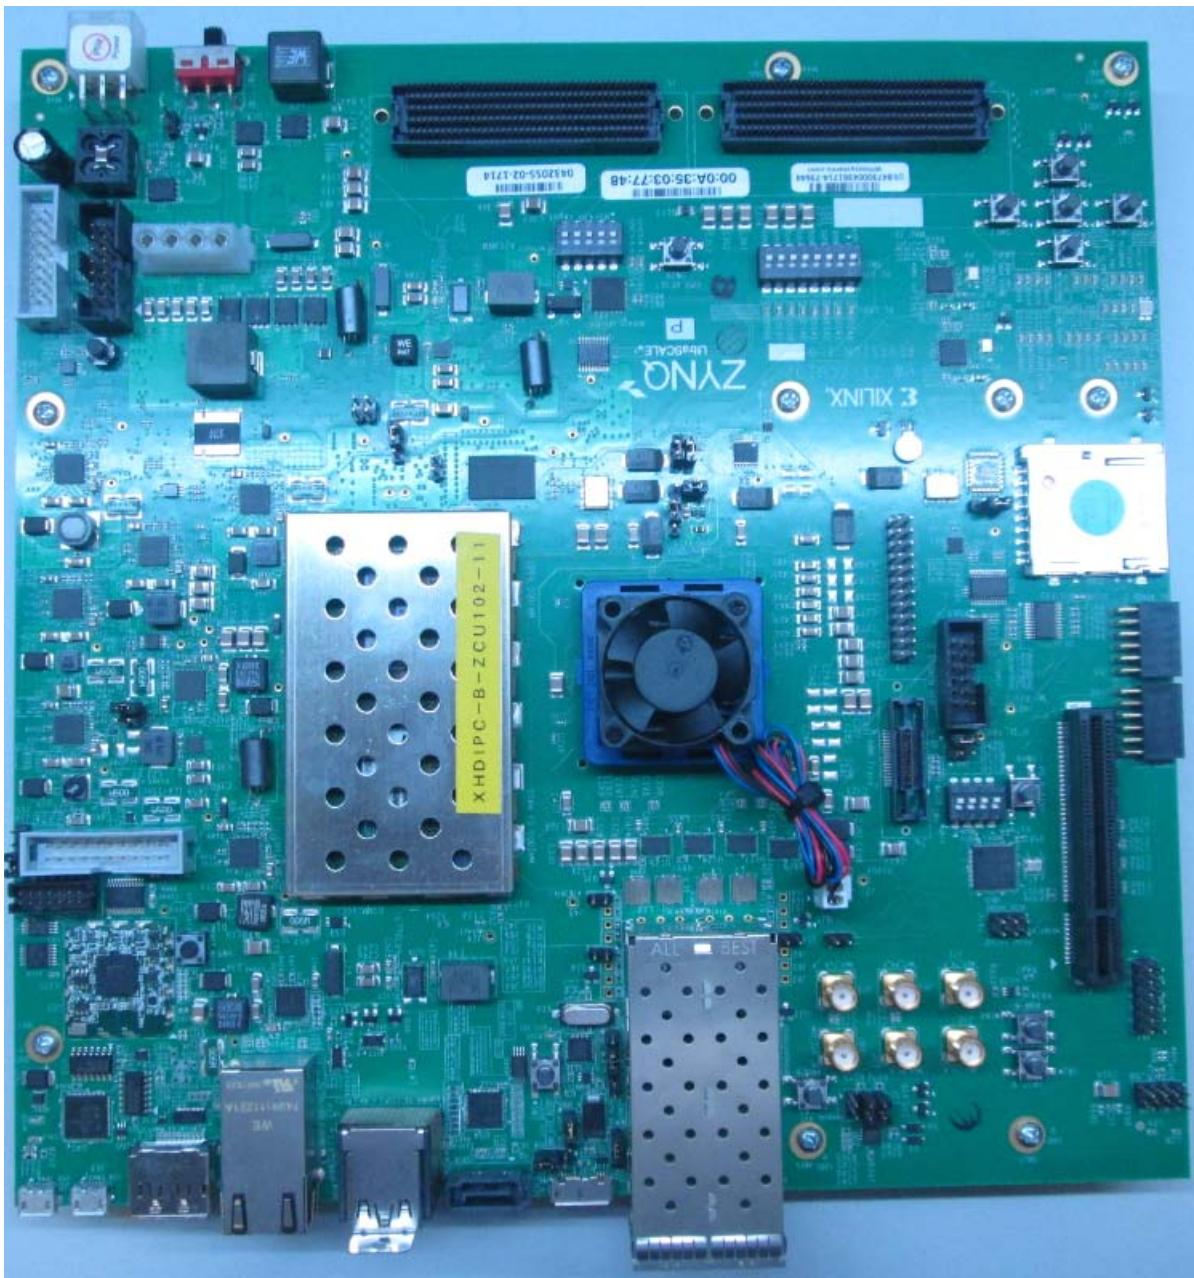

Figure 5-5: ZCU102 Board
- g. Ensure the board switches and jumpers are in position as shown in Figure 5-5.